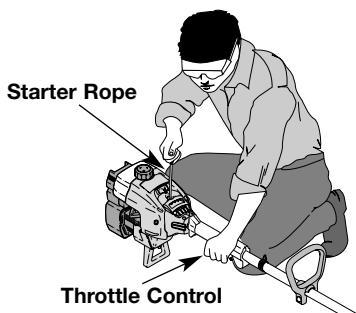

Fig. 11
WARNING: Avoid accidental starting. Be in the starting position when pulling the starter rope (Fig. 11). The operator and unit must be in a stable position while starting to avoid serious personal injury.
5. With the unit on the ground, squeeze the throttle control and pull starter rope briskly (Fig. 11). Continue pulling until the engine sounds as though it wants to run (normally 2 to 5 pulls).
7. Pull starter rope briskly 1 to 3 times to start the engine (Fig. 11).
1. Release your hand from the throttle control (Fig. 11). Allow the engine to cool down by idling.